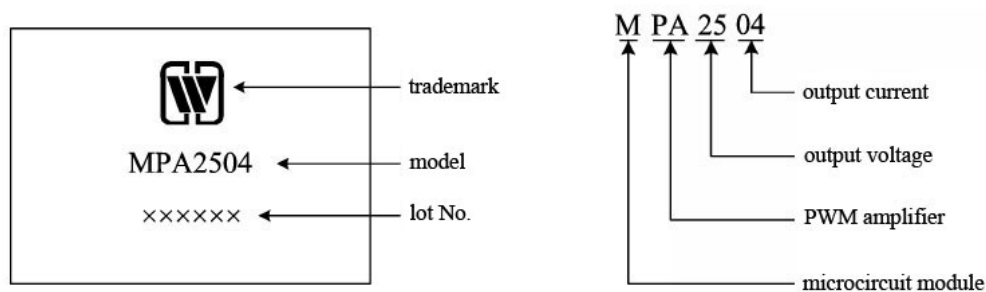

Fig. 7 Part numbering key
10. Part numbering key (Fig. 7)